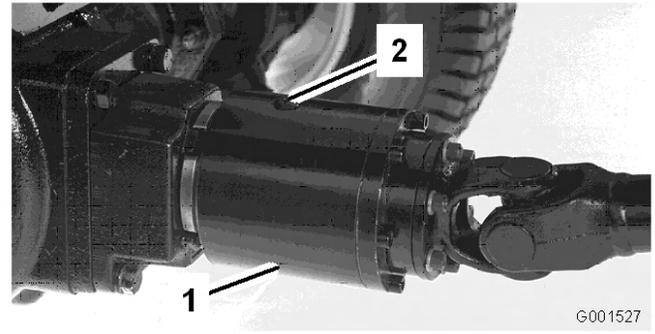

Figure 28
2. Rotate the clutch (Figure 28) so that the check plug (shown in the 12 o'clock position) is positioned at 4 o'clock.